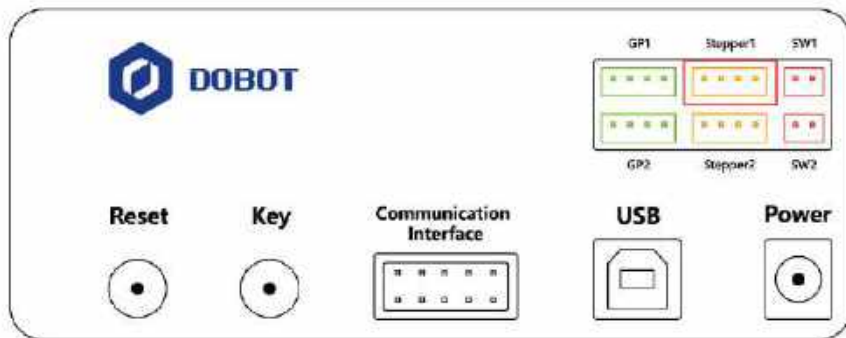

Figure 5.109 Connect with extruder
Step 6 Connect the extruder to the **Stepper1** interface on the back of the base with motor cable, as shown in Figure 5.109.